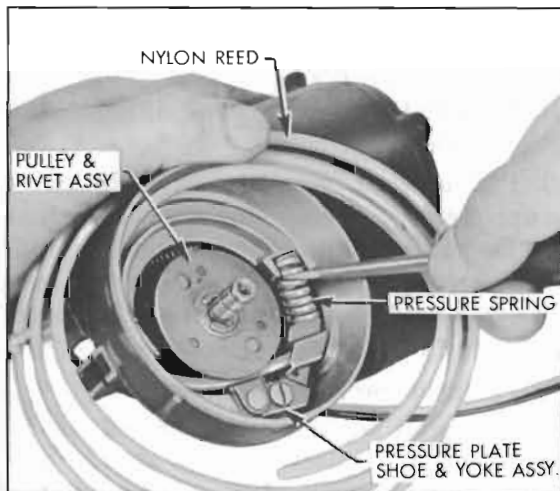

Figure 11-7—Removal of Pressure Spring
4. Pry upward to remove the spring which fits on the tang of the yoke and is wedged against the drive housing. This relieves the pressure of the nylon reed against the pulley. See figure 11-7.